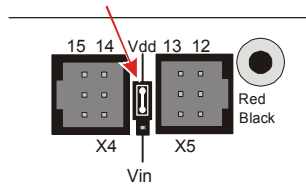

Figure 4-5
Figure 4-5 shows the servo header on the Board of Education Rev C. This is where you will plug in your servo. This board features a jumper that you can use to connect the servo's power supply to either Vin or Vdd. The jumper is the removable black rectangular piece right between the two servo headers.
- ✓ Set the jumper to Vdd as shown in Figure 4-5. This involves lifting the rectangular jumper up off of the pins it is currently on, and replacing it on the two pins closest to the Vdd label.